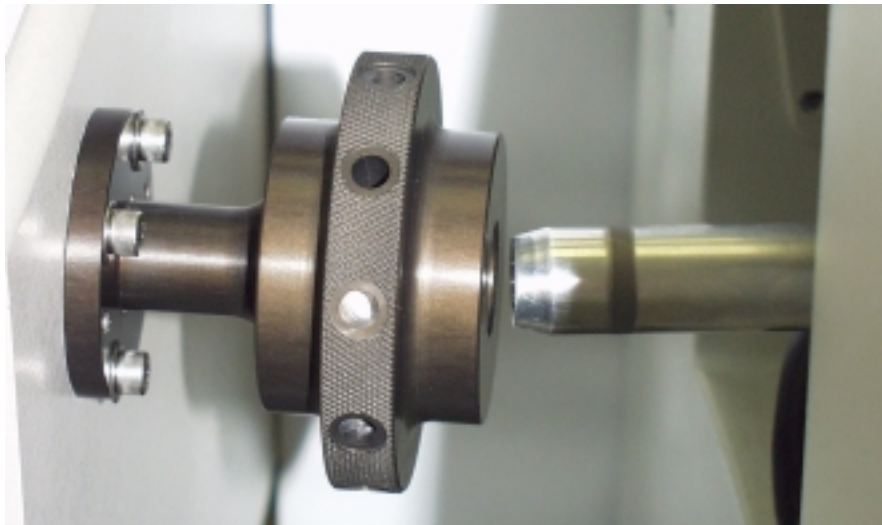

Figure 54 - AutoProbe Disconnected from the MS
6. Slide the AutoProbe away from the MS while maintaining the MS and AutoProbe parallel to each other (Figure 54).